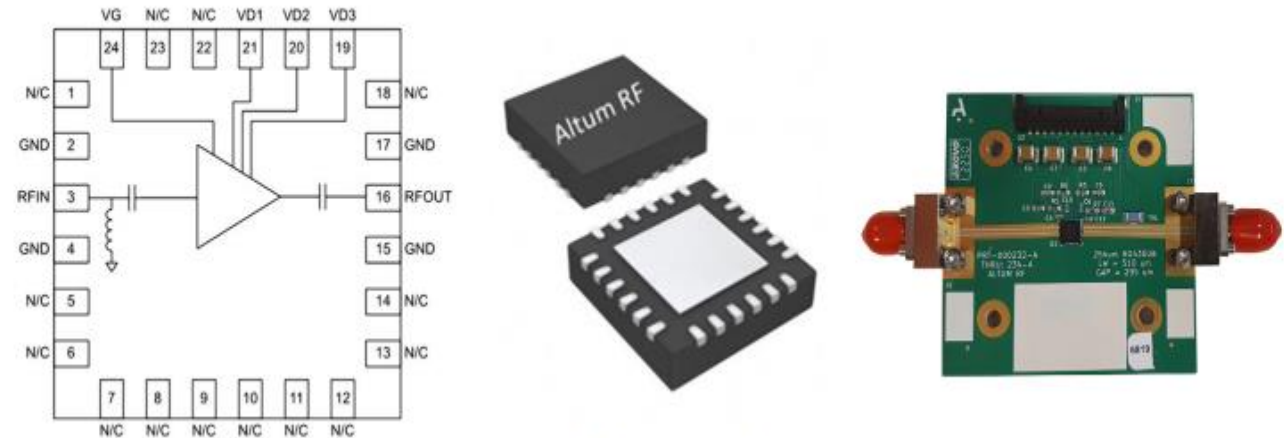

Figure 2: ARF1108Q4 Pinout, 24-Pin 4X4 mm² QFN Package, and Evaluation Board
- Altum RF has developed a family of PAs for AESA radar at X-band (8 to 12 GHz) and Ku-band (13.5 to 17.5 GHz) with saturated output power in the 0.5W to 2W range. These PAs are highly efficient and meet the thermal and ruggedness requirements for AESA radar applications. These PAs are fabricated using a high-performance, costeffective GaAs pHEMT process and housed in a 4X4 mm² QFN plastic package. A standard pinout and package outline drawing is illustrated below in Figure 2. A performance summary of these PAs is listed below in Table 1
effective GaAs pHEMT process and housed in a 4X4 mm² QFN plastic package. A standard pinout and package outline drawing is illustrated below in Figure 2. A performance summary of these PAs is listed below in Table 1.